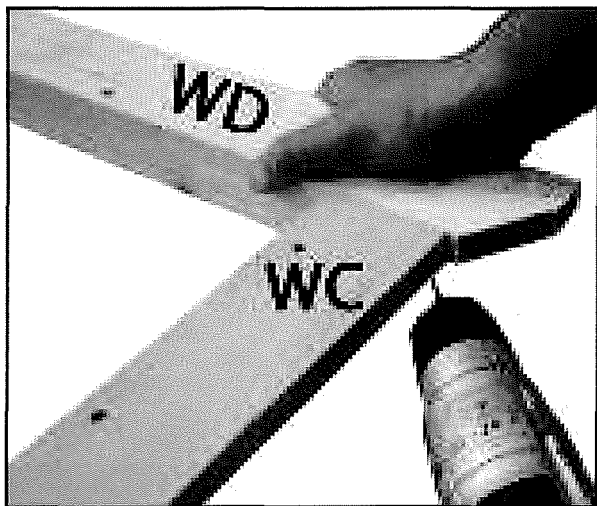

Fig A7
15. Drill (not too deep) and screw in each corner with 40mm screws (fig A7).